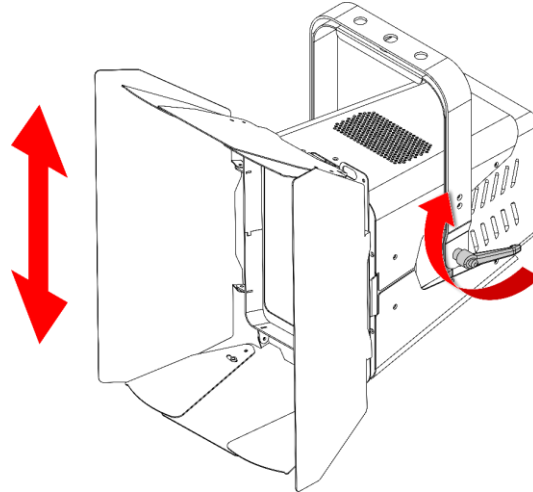

Fig. 07
- 01) Turn the 2 **adjustment handles (02)** counterclockwise to release them.
- 02) Tilt the device at the desired angle (see Fig. 07).
- 03) Turn the 2 **adjustment handles (02)** clockwise to tighten them. Make sure that the device cannot move freely after the 2 **adjustment handles (02)** are tightened.